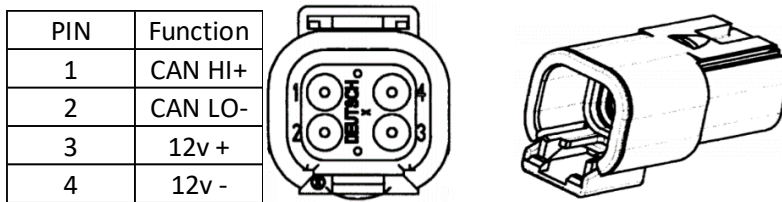

Figure 22
- B. All vehicles are required to provide a 4 pin DTM connector (DTM04-4P) wired according to the table below (Figure 22) and accessible from where the A-pillar meets the upper door bar on the passenger side of the vehicle.